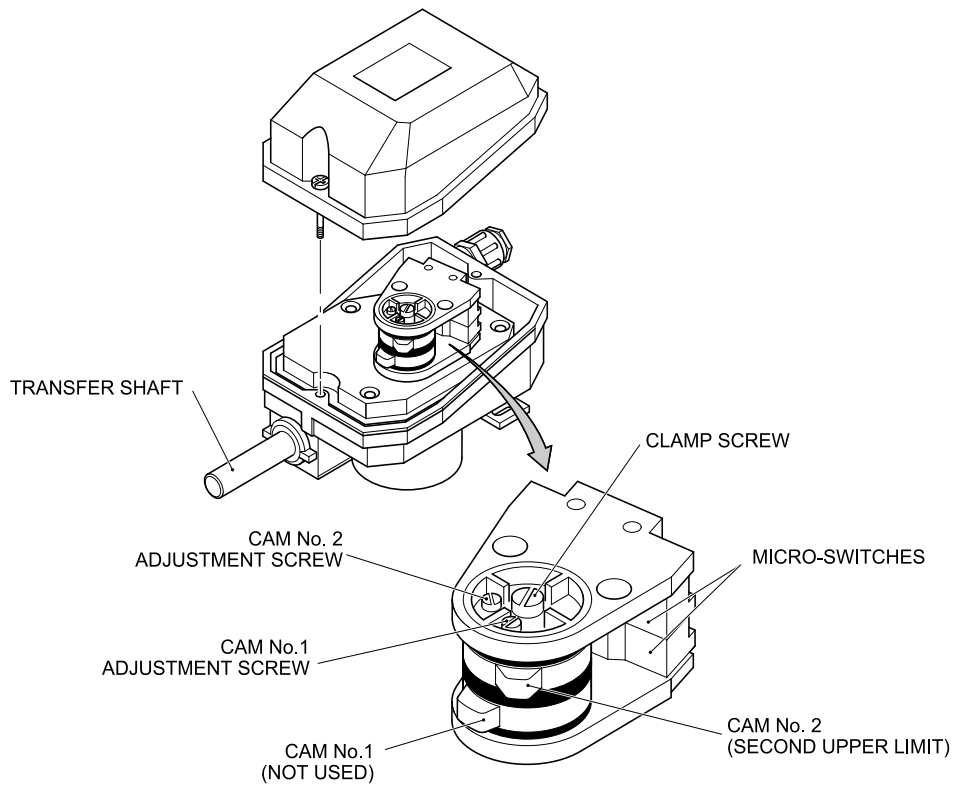

Figure 34 – Setting the Ultimate Upper Limit Switch – Rotary Type
- Remove the lid from the second upper limit and loosen the central clamp screw (see Figure 34).